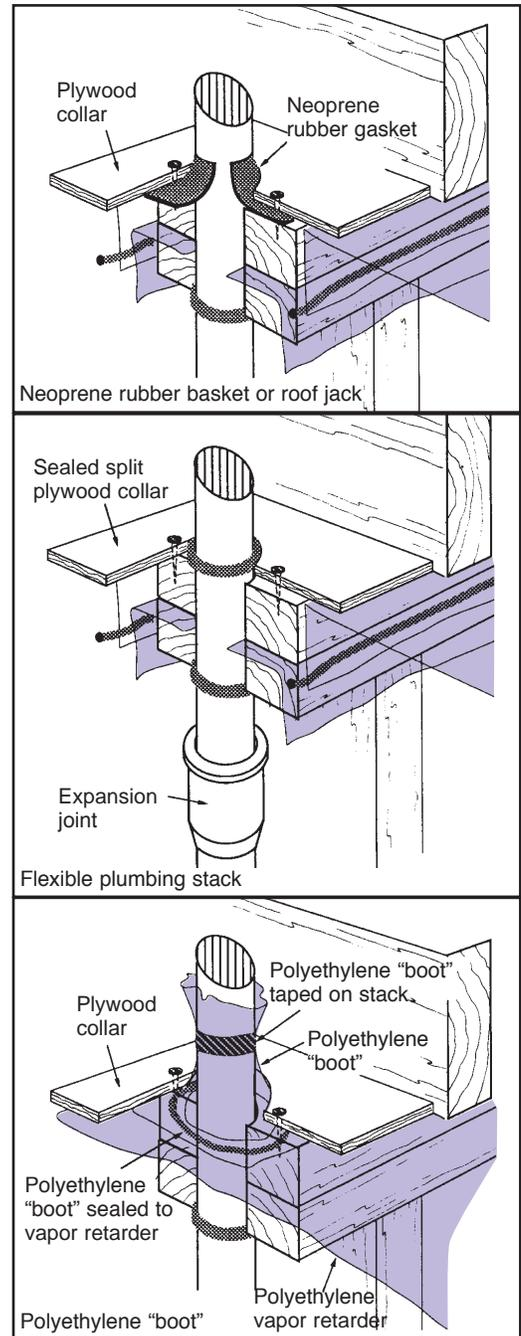

Fig. E-43a: Sealing vent stacks
- Plumbing vent stacks: Install flexible collar at upstairs ceiling on attic side and seal (see Figures E-43a and E-43b).